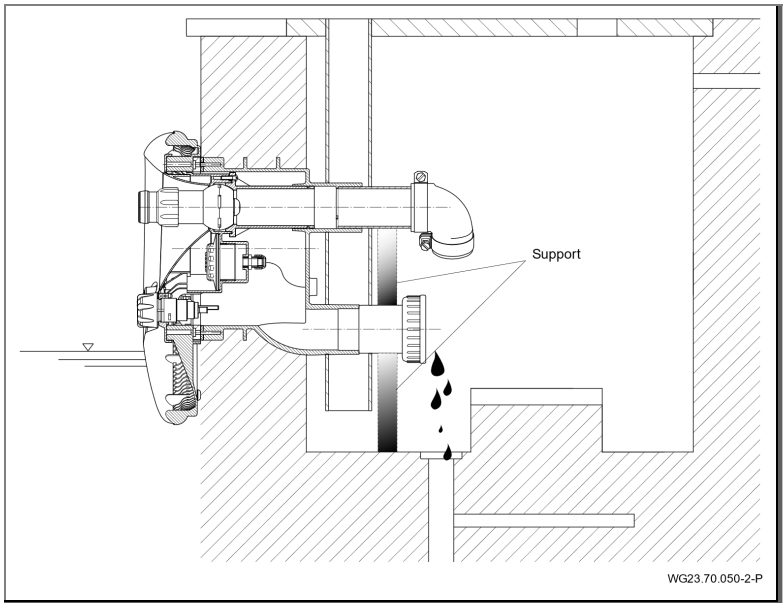

Fig. 26
- 3. Support the suction and pressure lines to relieve them. See "Fig. 26" on page 43.